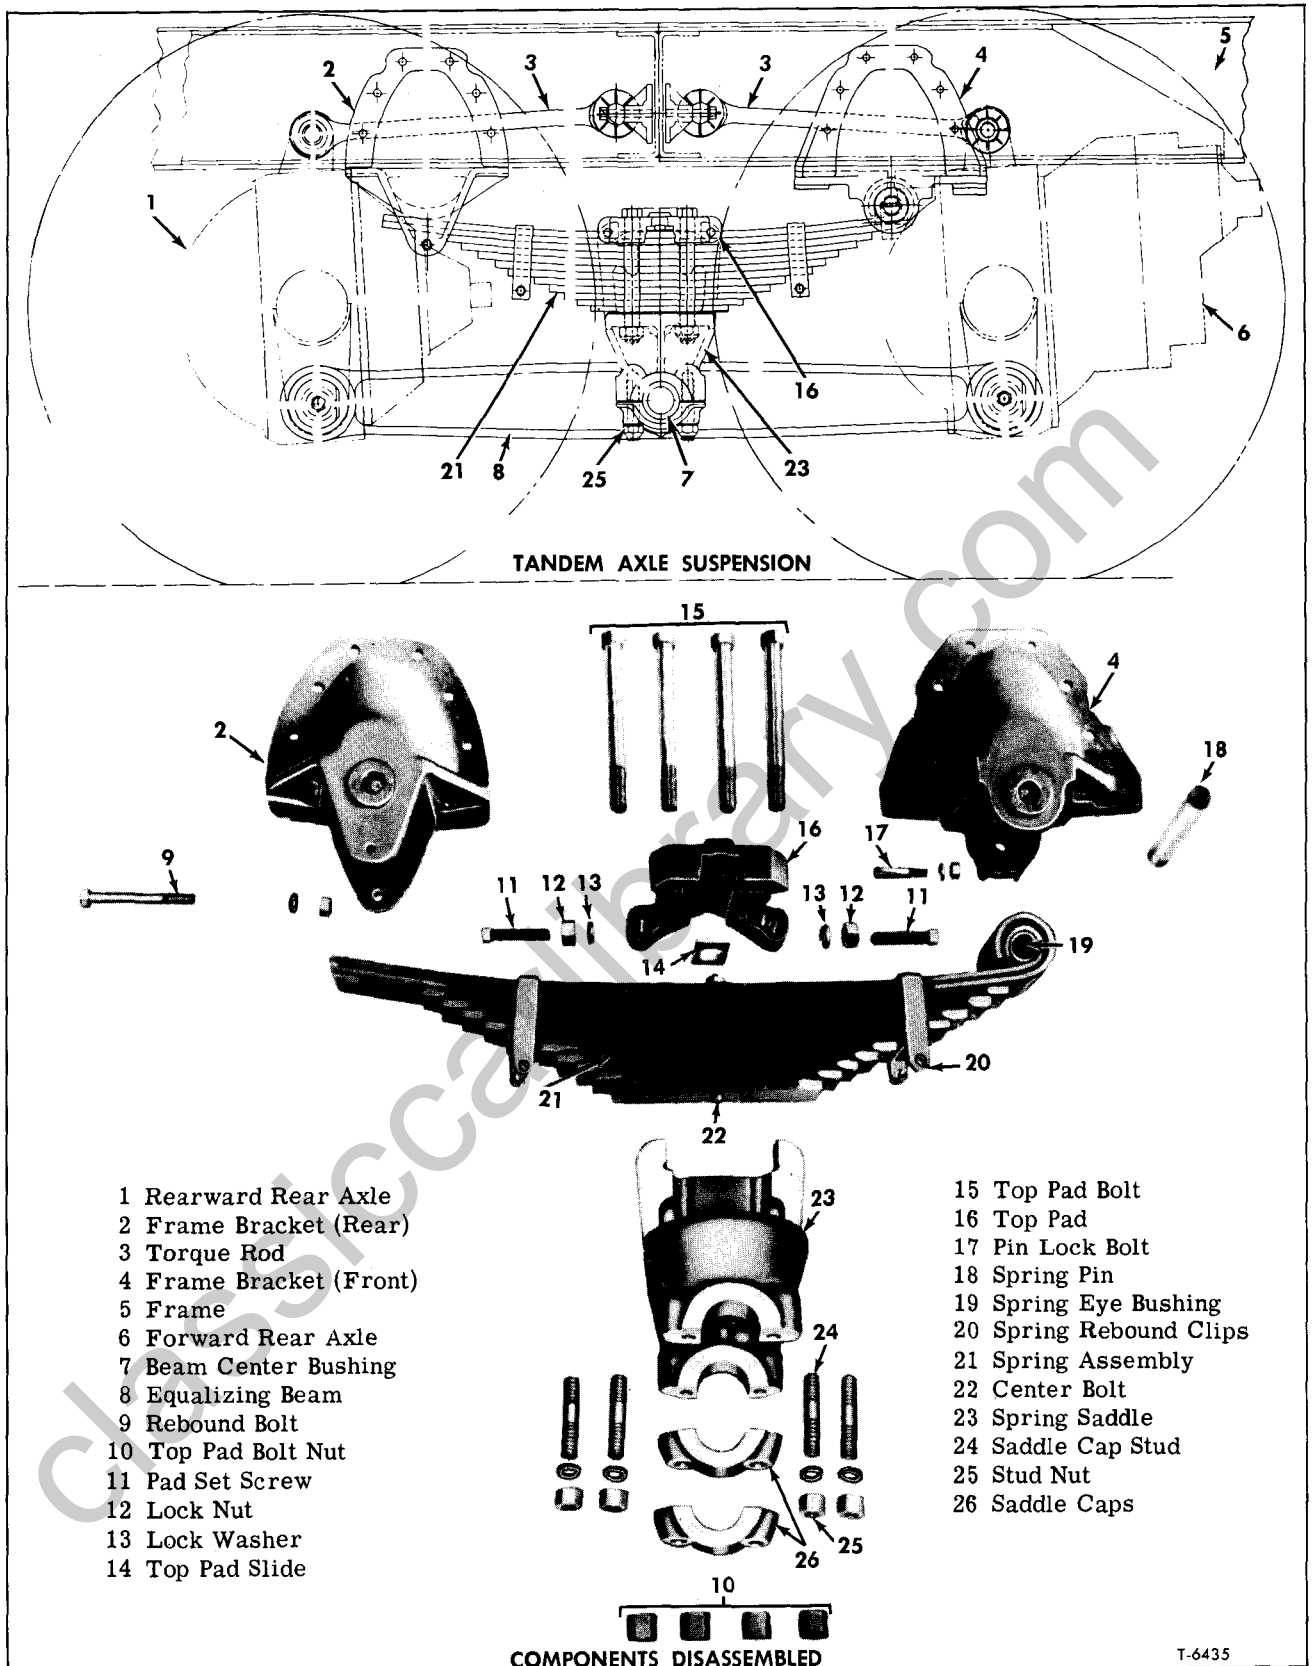

Figure 8—Tandem Rear Axle Suspension (Hendrickson RT) (Typical)
The basic difference between the RT and RU type suspension is that the RT-type embodies a spring top saddle pad that uses bolts in place of U-bolts to secure spring to axle. The RU-type employs solid front and rear torque rods and uses U-bolts to secure springs to axle. Figures 8 and 9 show typical arrangement of Hendrickson suspension units described.
(Refer to Figures 8 and 9)
REMOVAL (Refer to Figs. 8 and 9)
4. On vehicles equipped with the "RT" type suspension shown in figure 8, remove four bolts which attach spring saddle top pad to spring saddle; hold nuts at bottom while turning bolt at top. Loosen lock nuts on top pad setscrew, then loosen setscrew and lift top pad and then slide from top of spring.
INSTALLATION (WITH "RT" TYPE SUSPENSION (Fig. 8))